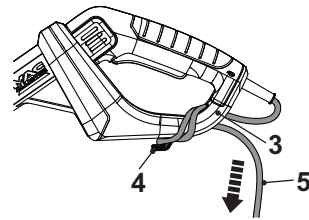

Fig. 4
2. Pull it over the cord retainer (4) and gently tug on the power cord (5) to ensure that it is firmly secured (Fig. 4).